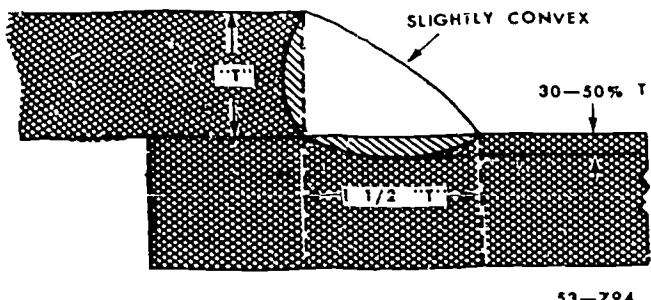

Figure 2-15. Lap weld specifications.
**Weld Specifications.** Weld specifications, illustrated in figure 2-15, are the requirements for completing a sound weld. All the specifications are based on the thickness (*T*) of the base metal. However, when you make welds on metals of unequal thickness, the specifications are based on the lighter gage metal. The specifications for the lap joint in figure 2-15 are: